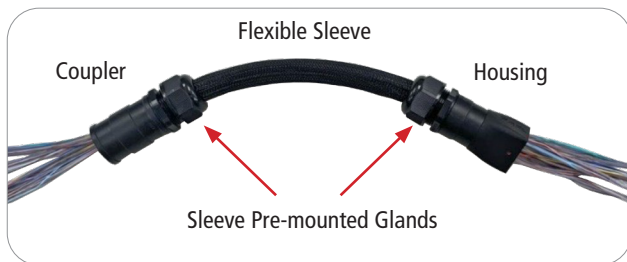

Figure 3a
- D. Assemble the coupler and housing to the 12 inch or 24 inch flexible sleeve by screwing the coupler to the sleeve's pre-mounted gland on the side nearest to the end of the cable jacket. Then screw the housing to the sleeve's pre-mounted gland on the side facing the end of the bare fibers (**Figure 3a**).